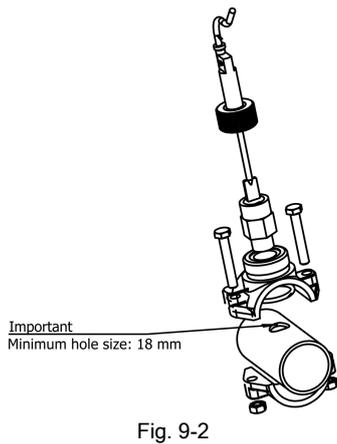

Fig. 9-2
2. Install the flow detector (flow switch) vertically in the saddle (Fig. 9-2).